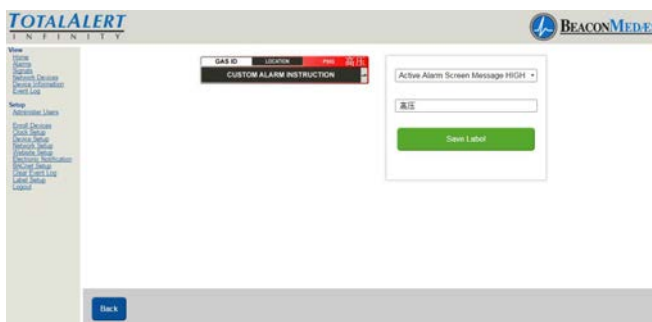

Figure 248
18. To save, select "Save Label" button. (See Figure 248)